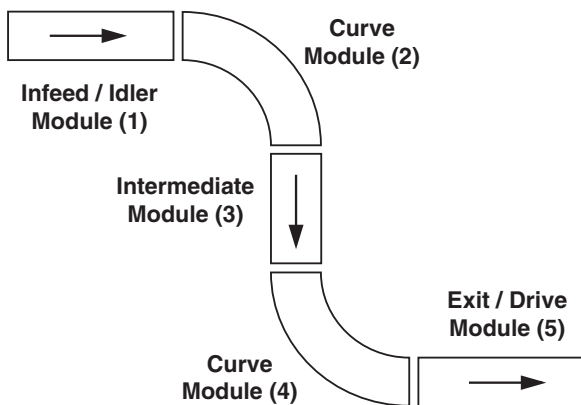

Figure 7
2. Position the frame sections in the correct order (Figure 7).